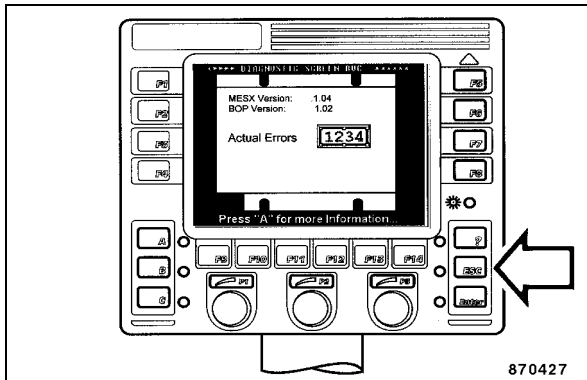

Fig. 199
- Press key "ESC" (Fig. 199) to leave the screen page with the actual fault codes.